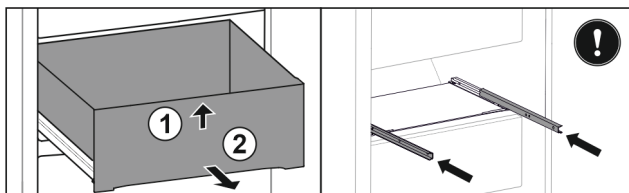

Fig. 137
- Lift up drawer at the front. Fig. 137 (1)
- Remove drawer to the front. Fig. 137 (2)